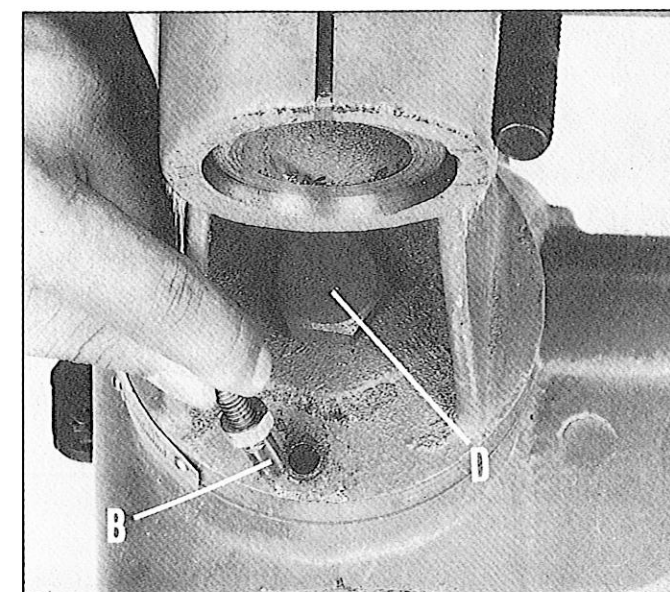

Fig 30
4. Fig. 30, illustrates the table alignment pin (B) removed. Loosen table locking bolt (D) Fig. 30, tilt table to the desired angle and tighten bolt (D). When returning table to the level position, replace table alignment pin (B). This will automatically position the table surface at 90 degrees to the spindle.